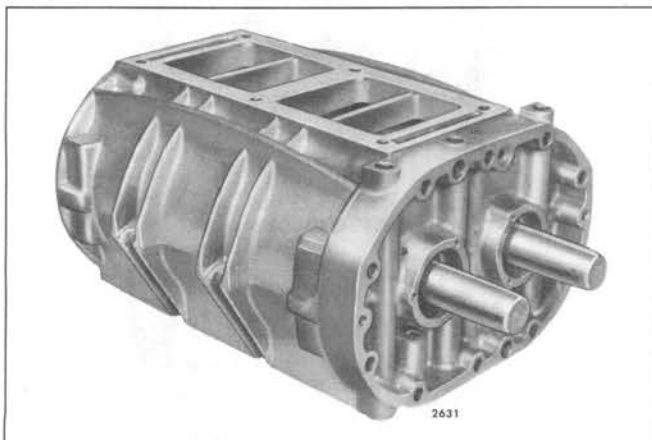

Fig. 16 - Assembling Blower Rotors in Housing and Front End Plate with Oil Seal Pilots (J 6270-5)
2. Refer to Fig. 16 and install the blower rotors in the blower housing and end plate as follows: